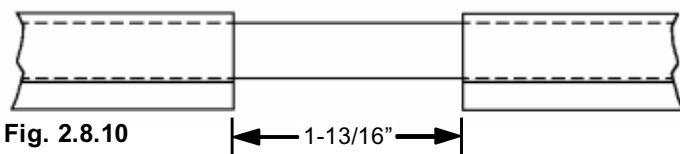

Fig. 2.8.10
2.8.10 Cut out a 1 13/16" section of cover for each powerfeed (see Fig. 2.8.10).